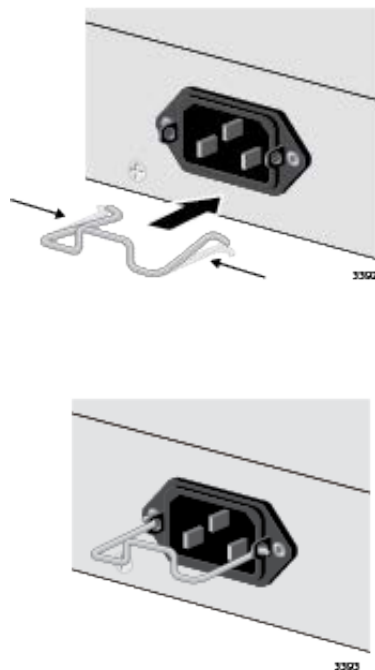

Figure 59. Installing the Power Cord Retaining Clip
1. Install the power cord retaining clip on the AC power connector on the rear panel of the switch, as shown in Figure 59.